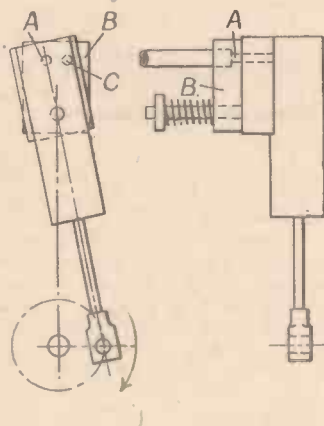
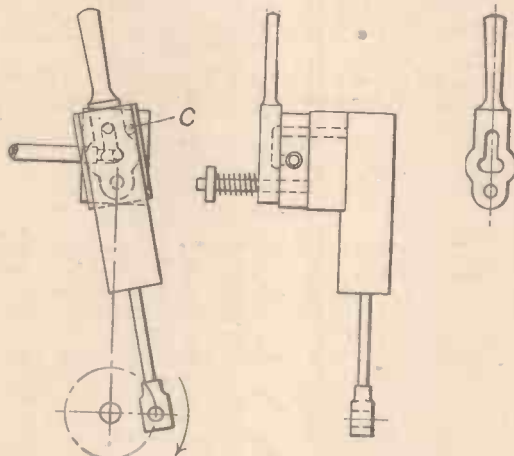

Fig. 1. General arrangement of a single-acting oscillating cylinder and steam block.
Fig. 2. Showing the addition of a reversing plate to an oscillating cylinder.
MANY model steam engines which are driven by one or two single-acting oscillating cylinders are non-reversible, that is, they can run in only one direction. The general arrangement of a single cylinder, and its steam block, is as shown in Fig. 1, steam reaching the cylinder through one of the ports (A) in the steam block; (B), the other port; (C) being the exhaust port. The direction of rotation of the engine is clockwise, as indicated by the arrow. It will be seen that if the function of these ports could be reversed, and steam admitted through port (B), the direction of rotation of the engine would be reversed. This condition can be brought about by the addition of a reversing plate, in the manner illustrated in Fig. 2. A new steam block would also be necessary, in place
It will be seen that when the reversing plate is in the position shown in Fig. 2,